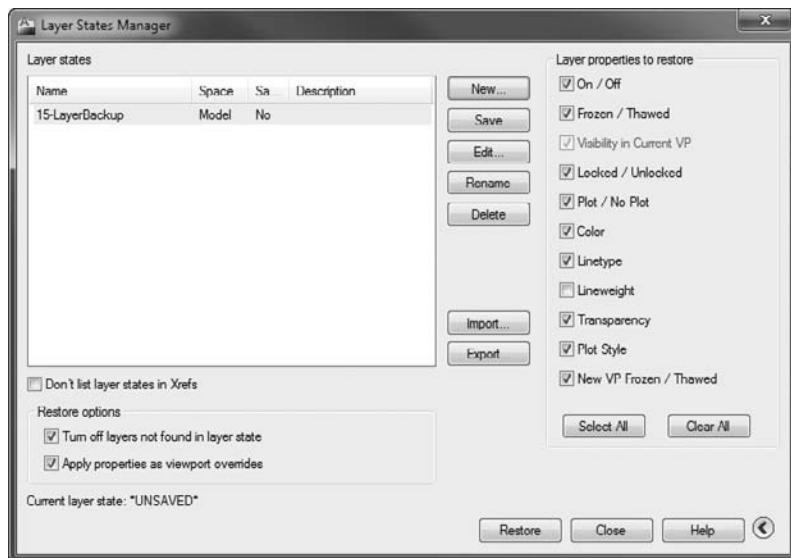

FIGURE 15.29 Restoring all but the Lineweight property from the 15-LayerBackup layer state
9. Expand the Layer States Manager using the arrow icon in the lower-right corner to reveal the Layer Properties To Restore area of the dialog box. Uncheck the Lineweight check box, as shown in Figure 15.29, and then click Restore.